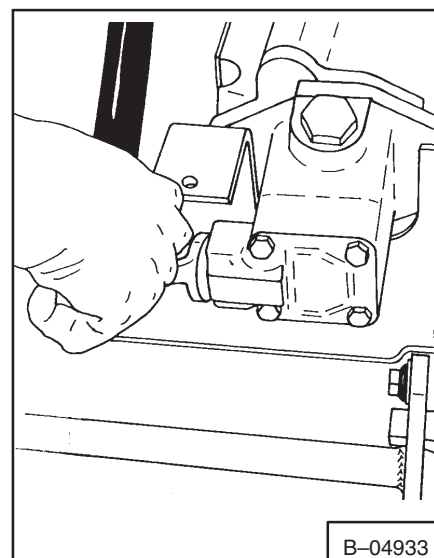

**Fig. 2-25** Removing Bolts
3. Loosen the nuts from the pump mounting bolts (Fig. 2-25 & 2-26).